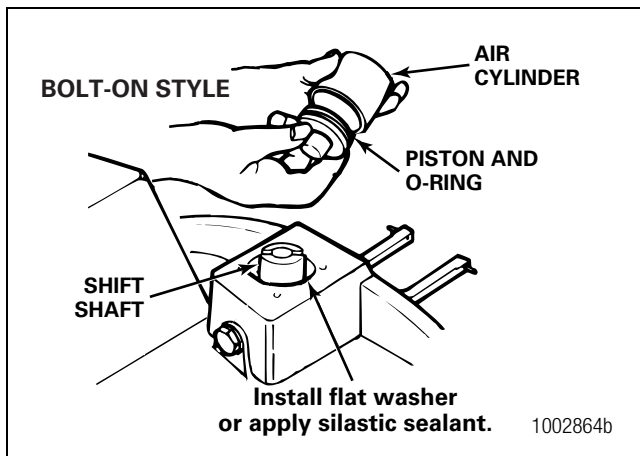

Figure 6.11
7. Install the flat washer, when used, or apply silastic sealant, Meritor part number 1199-Q-2981, to the bottom of the cylinder bore. Figure 6.11.
8. Install the O-ring into its groove on the piston. Lubricate the O-ring with axle lubricant. Install the piston into the air cylinder. Figure 6.11.